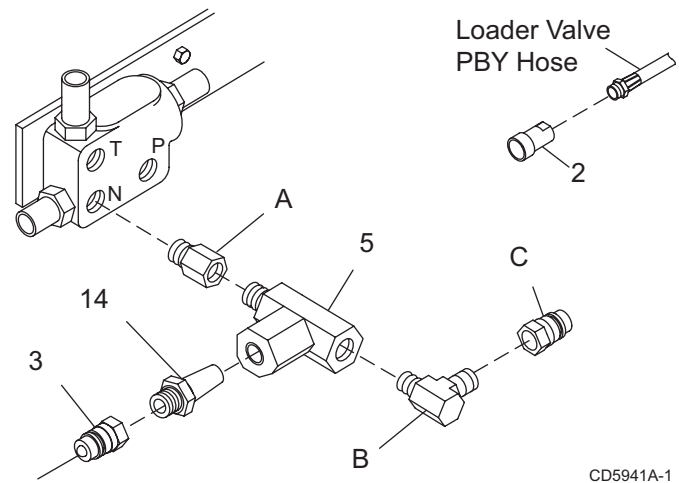

Figure 9. Hydraulic Fitting Installation
2. Attach tee (5) to adapter (A) and point it to the rear. See Figure 9.
3. Attach adapter (14) and male quick coupler (3) to the center portion tee (5).
4. Attach elbow (B) and male quick coupler (C) to the end of tee (5). Point elbow and quick coupler to the front.
5. Attach female quick coupler (2) to the end of the loader valve PBY hose.